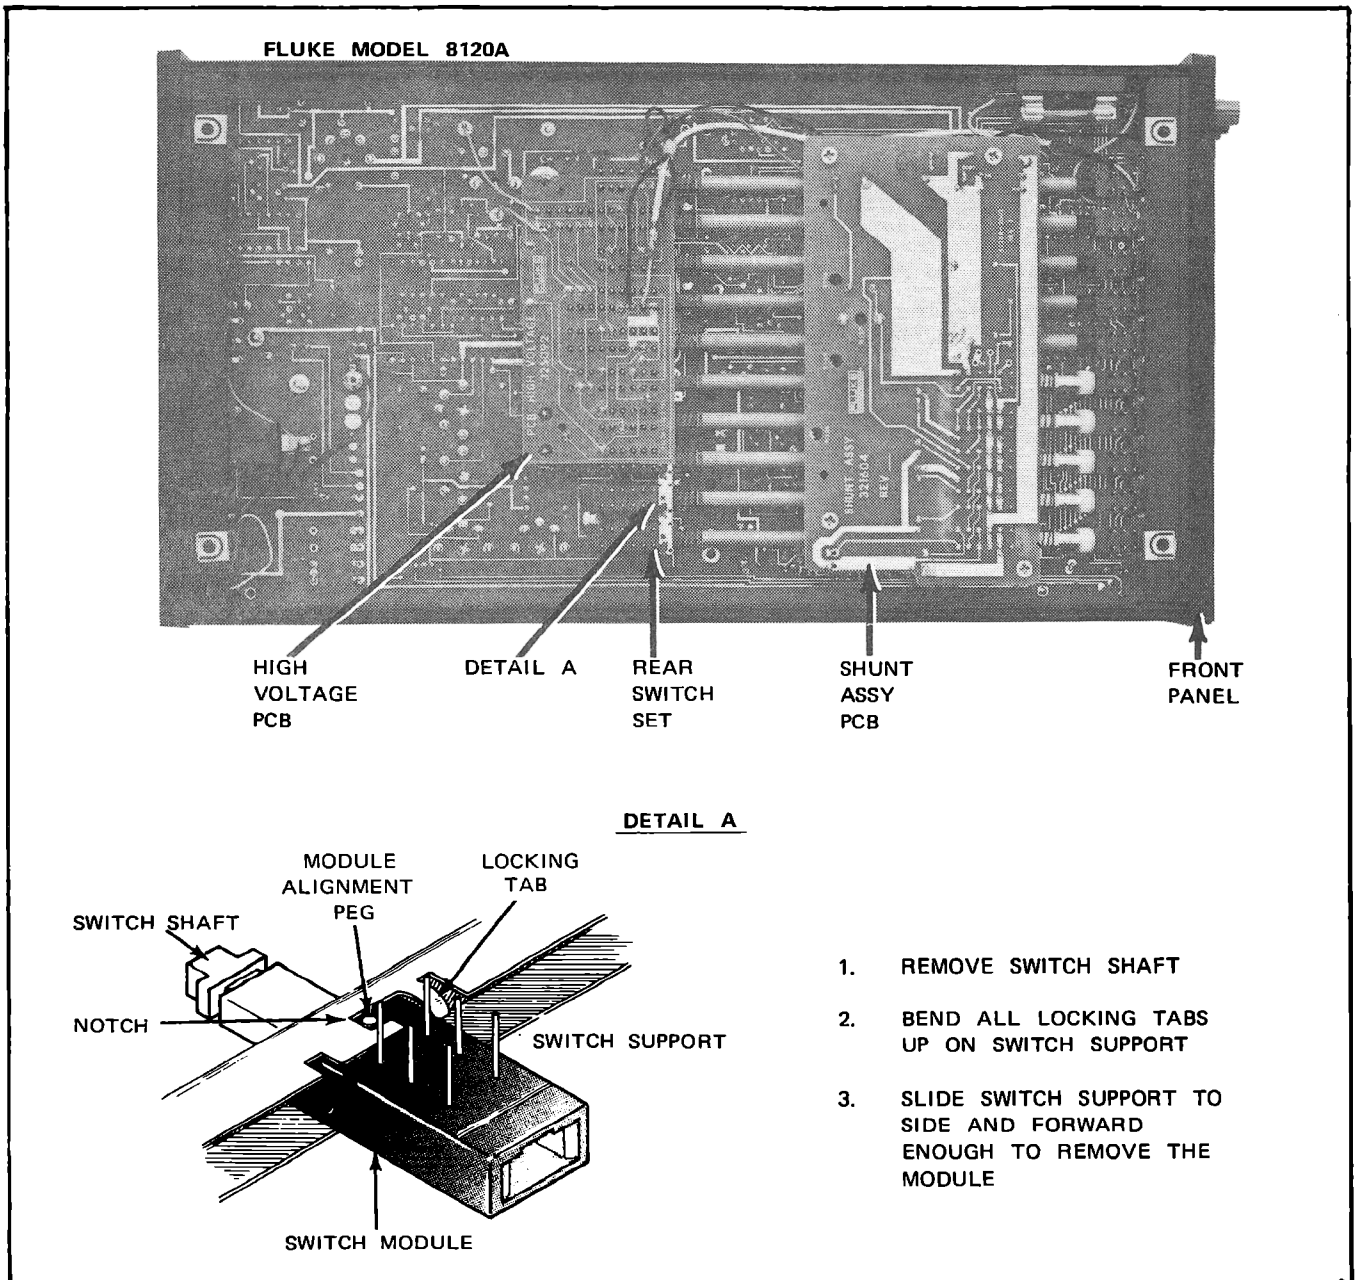

Figure 4-4. MODULE REPLACEMENT
- 4-22. SWITCH MODULE REPLACEMENT - REAR SWITCHES (Figure 4-4).
- 4-23. SWITCH MODULE REPLACEMENT - FRONT SWITCHES, MAIN PCB (Figure 4-4).
4-24. SWITCH MODULE REPLACEMENT - SHUNT ASSEMBLY PCB (Figure 4-4).